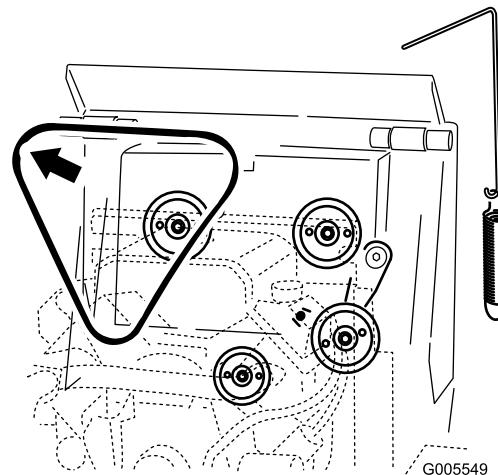

Figure 45
5. Remove the belt from the three pulleys (Figure 45).